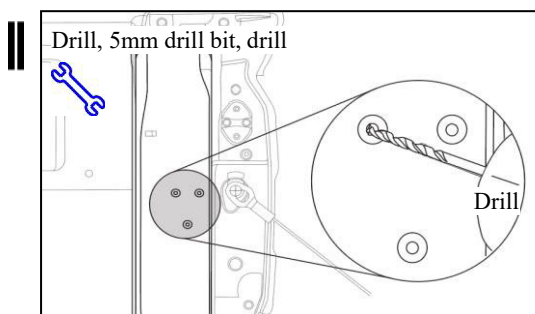
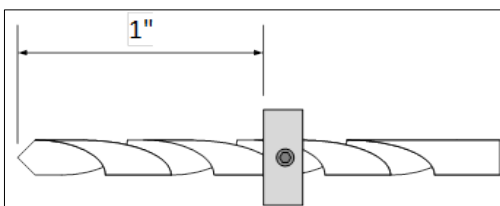

Fig. 1-2
Fig. 1-3
(3) Drill the three holes through the center point just marked with a 5.0 mm drill bit (Fig. 1-2). Set drill stop to 1" (Fig. 1-3).
(4) Debur the holes just drilled and apply sealant around the holes.